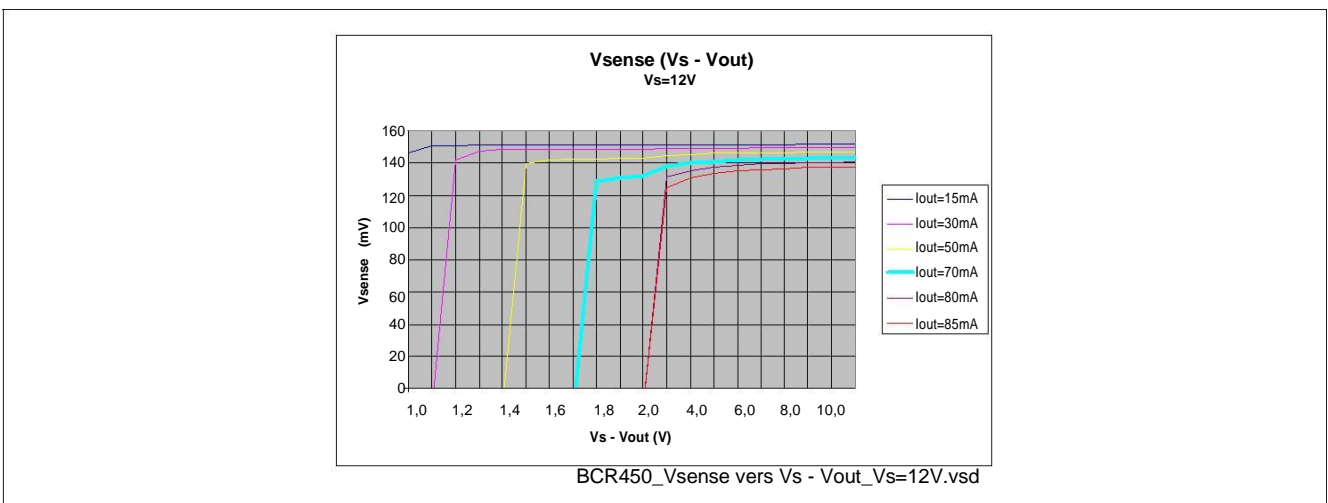

Figure 8  $V_{sense}(V_S - V_{out}); V_S = 12\text{ V}$
1.  $V_S - V_{out}$  should not fall below a certain value e.g. 70 mA: ~ 2.5 V (see Figure 8). If  $V_F$  tends to maximum specification value, enough overhead regarding supply voltage should be guaranteed